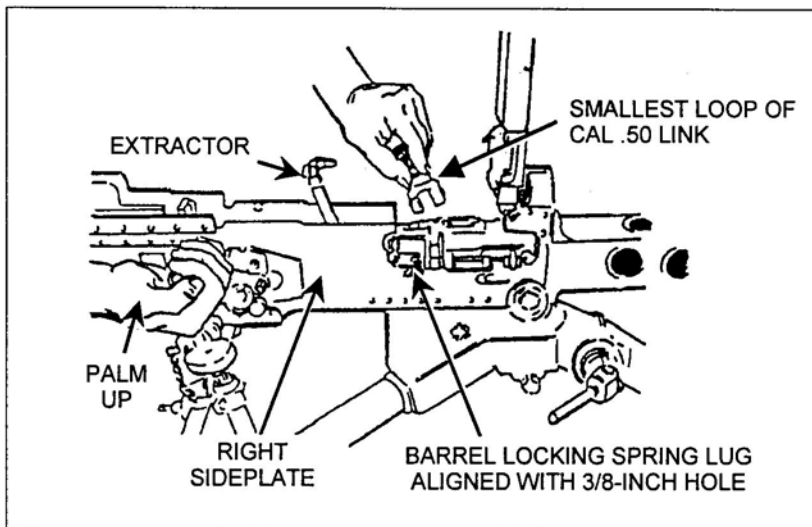

Figure 2. Align the lug.
- (2) Grasp the retracting slide handle with the right hand, palm up. Pull the bolt to the rear until the barrel locking spring lug aligns with the 3/8-inch hole in the right side plate of the receiver (Figure 2).
- (3) Place the smallest loop of a caliber .50 link between the trunnion block and the barrel extension (Figure 2). This keeps the barrel locking spring lug aligned with the 3/8-inch hole.